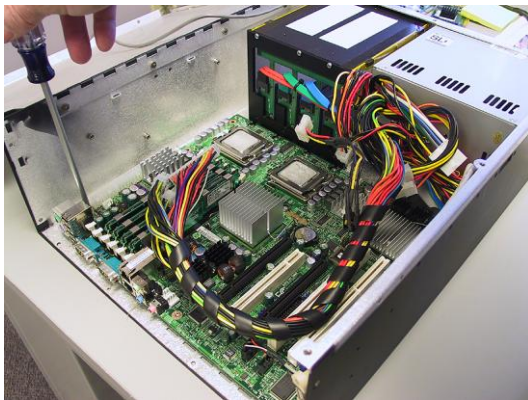

**Figure 5-125**
- 24) Remove the Internal USB cable connection from the motherboard as illustrated in Figure 5-125. These internal USB cables are normally used for USB Security Devices common with many applications